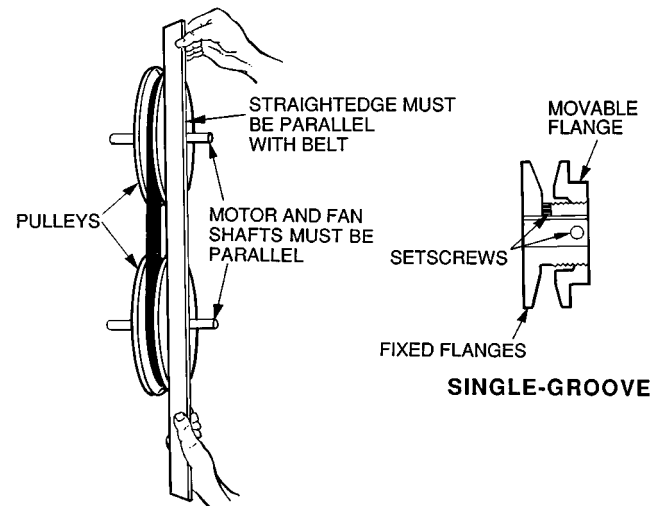

Fig. 28 — Evaporator-Fan Alignment and Adjustment
3. Loosen movable-pulley flange setscrew (see Fig. 28).